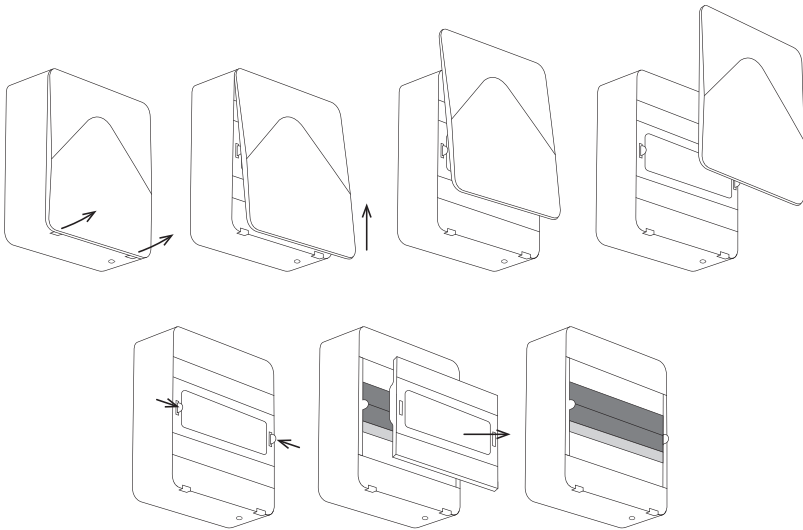

Figure 6. Dismantling the maintenance panel
1. Remove maintenance panel (Fig. 6).
2. Remove maintenance panel (Fig. 6).